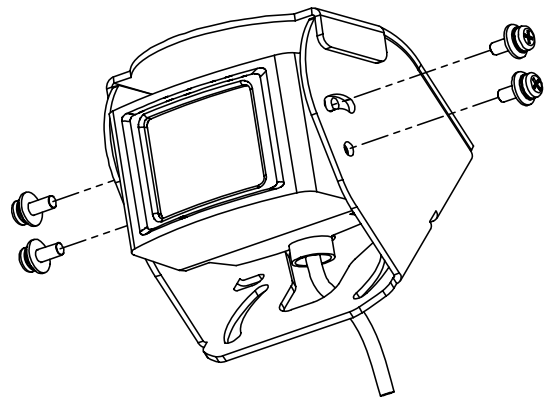

Figure 3
- 1 Thread the camera pigtail through the opening of the camera bracket. See Figure 3.